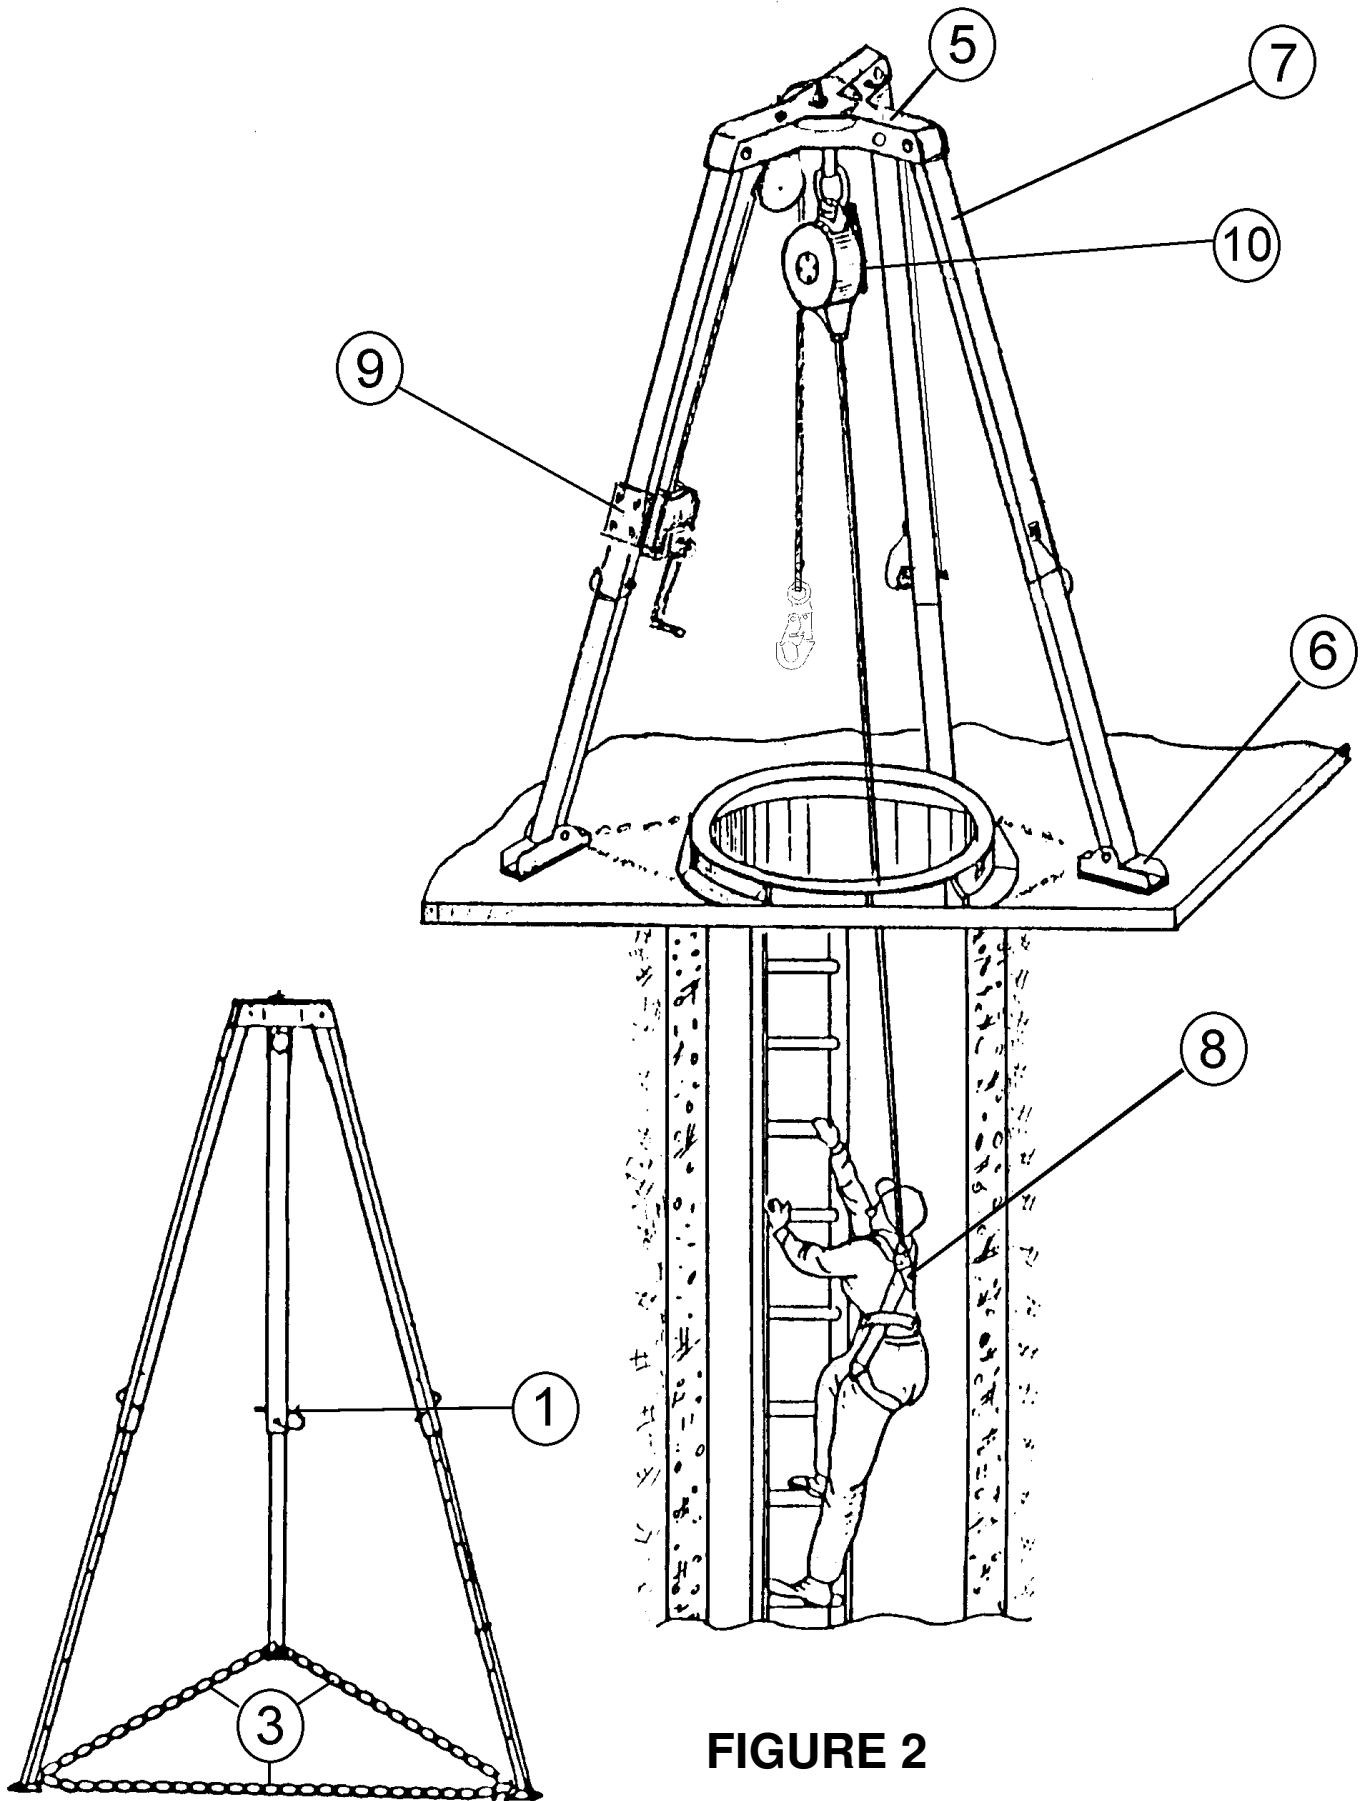

FIGURE 2
Frontline Tripods (Figs. 2 & 3) are designed to be used principally with Frontline 3-way SRLs (9) and other SRLs (10). Tripods provide a convenient, portable attachment point which can be moved from place to place, as needed. The tripod's legs (7) can be adjusted to accommodate unevenness of footing within reasonable limits.